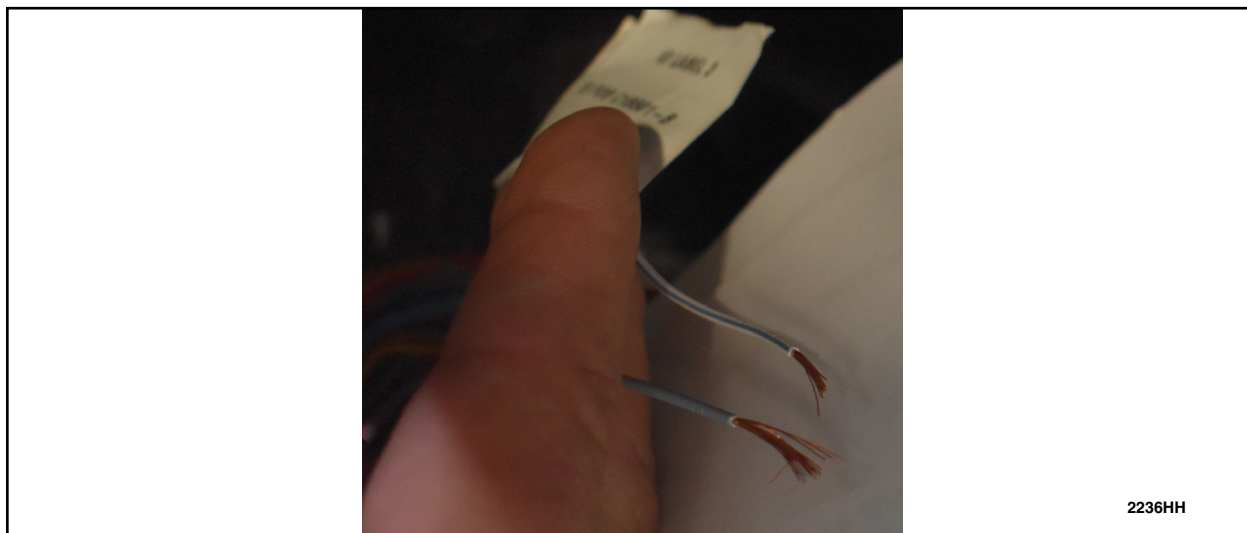

FIGURE 40
47. Strip 1" of insulation from the gray wire and white/blue wire, and terminal end. Put dual wall heat shrink tubing over gray wire and white/blue wire. See Figure 40.